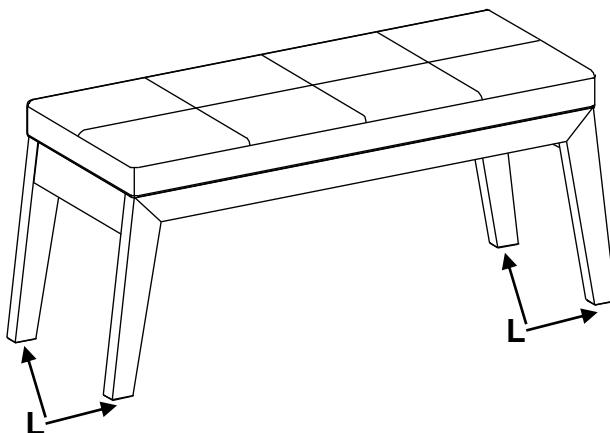

Fig. 5
Place the bench at its final destination. Rotate the Adjustable Glides (L) on the bottoms of the legs until the unit is level. See Figure 5.